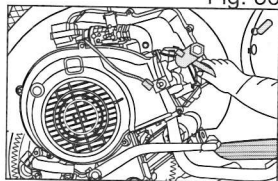

Fig. 37
- Disconnect the HT lead cable (Fig. 37).